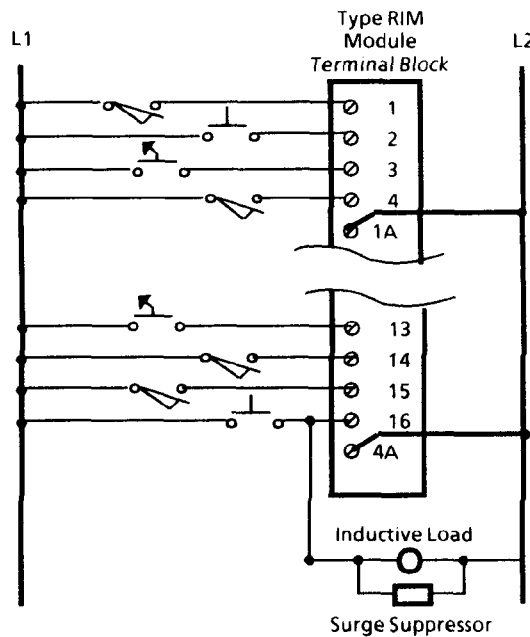

Figure 1 - Typical Wiring
Field input devices are wired to the terminal block on the front of the input module. Figure 1 illustrates the typical wiring of the RIM-101 input module.
- In those applications where an inductive load such as a motor starter or solenoid is wired in parallel with a Type RIM-101 Input Module, a suppressor must be installed as indicated in Figure 1. A typical suppressor for 120VAC operation consists of a 0.5 mfd. 400 volt capacitor with a 220 ohm resistor in series.